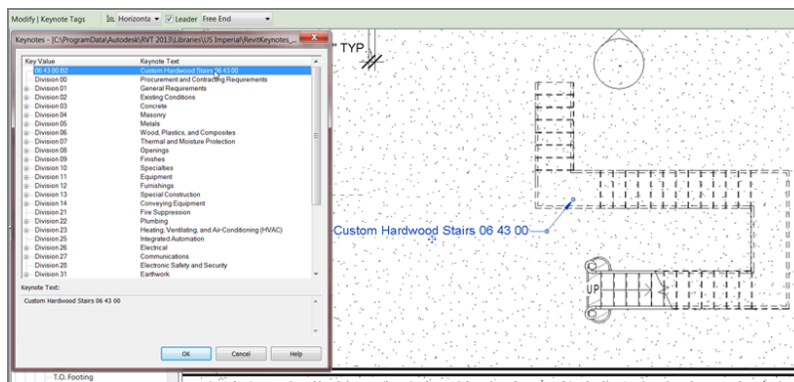

FIGURE 11.89: Picking the stairs to place the keynote
11. Pick the stairs, as shown in Figure 11.89.
12. In the Keynotes dialog box, your new keynote is at the top of the list (see Figure 11.89).